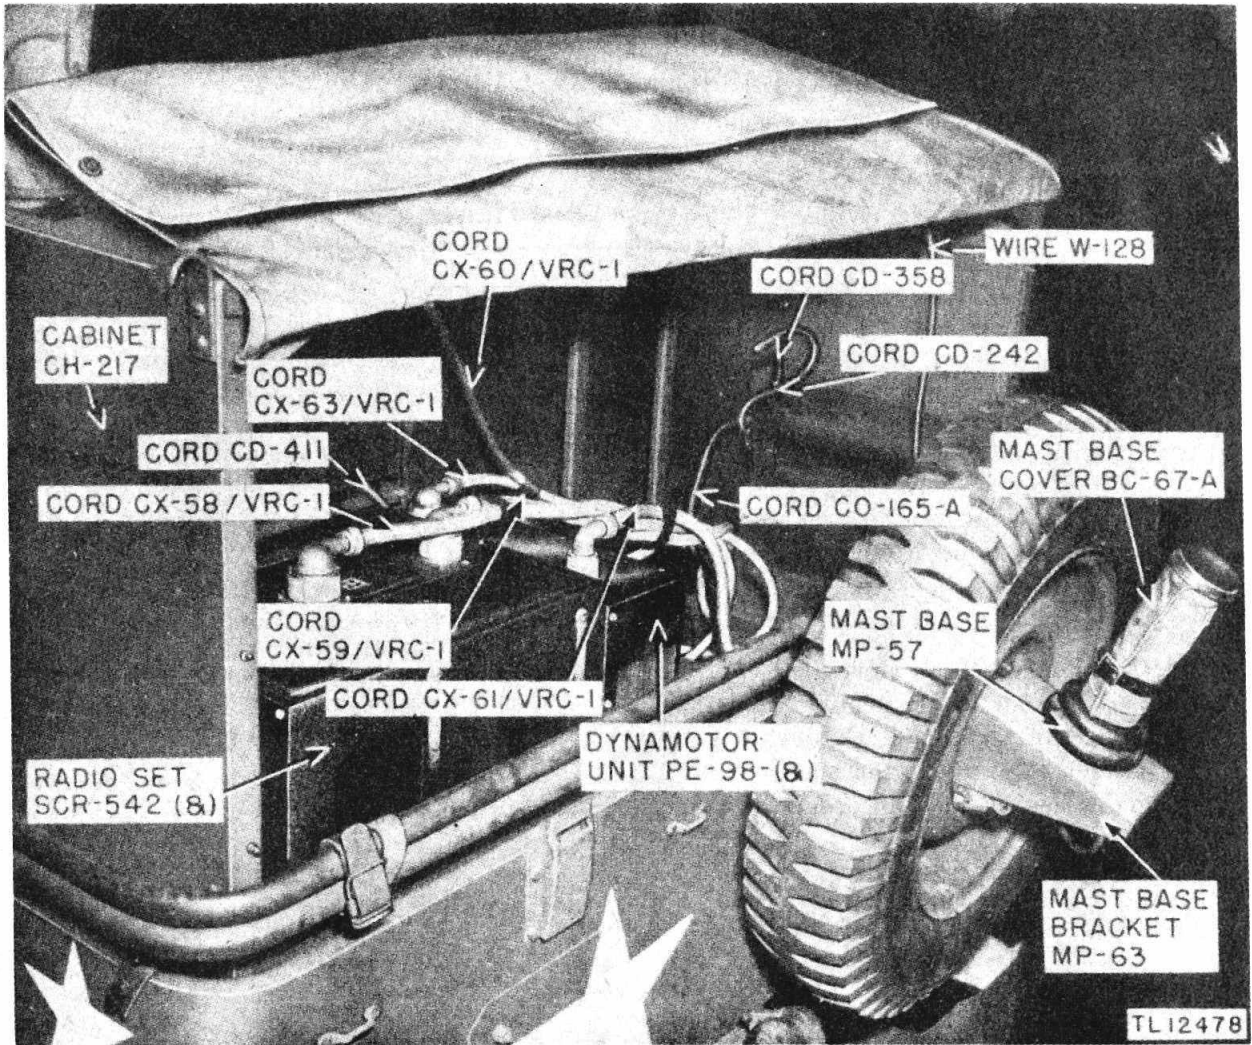

Figure 4. Radio Set SCR-542-(&) installed in Cabinet CH-217.
(1) The Radio Set SCR-542-(ampersand) is a very-high-frequency radio set composed of the Radio Transmitter BC-625-(ampersand) and the Radio Receiver BC-624-(ampersand) contained in one case and mounted in the rear portion of the Cabinet CH-217 (fig. 4). This radio set provides transmission or reception of a-m signals on any one